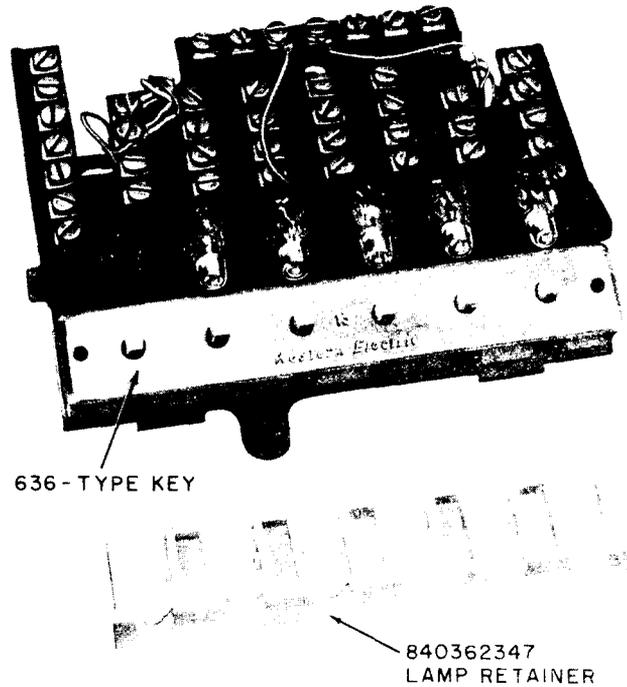

Fig. 5—Installing D-180557 Kit of Parts
2.05 In early telephone sets equipped with a 636A or 636B key, the 51A lamp contact springs are susceptible to losing their tension. An adjunct 840362347 lamp retainer (Fig. 5) is available and